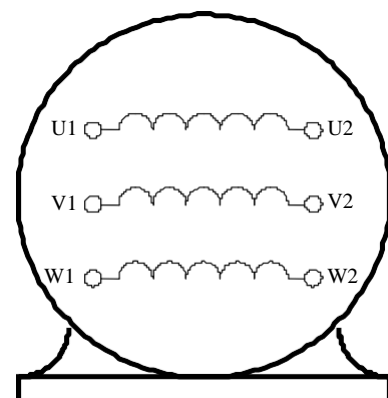

Figure 16
- should be thought of as three individual, highly inductive, iron cored coils. See figure 16.